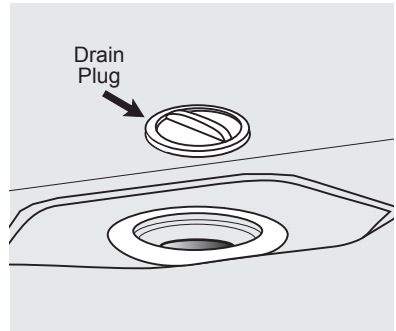

Figure 1A
- Remove the drain plug on the inside floor of the freezer by pulling it straight up (see figure 1A).